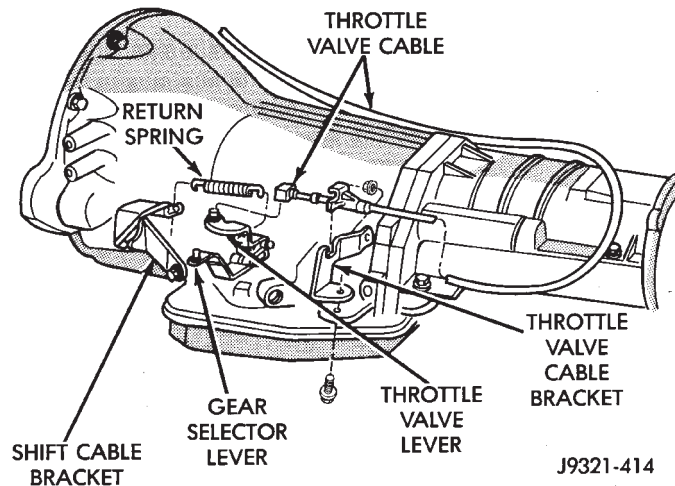

Fig. 181 Throttle Cable Attachment At Transmission
- (1) Turn ignition key to OFF position.
- (2) Remove air cleaner.
- (3) Verify that lever on throttle body is at curb idle position. Then verify that transmission throttle lever (Fig. 181) is also at idle (fully forward) position.